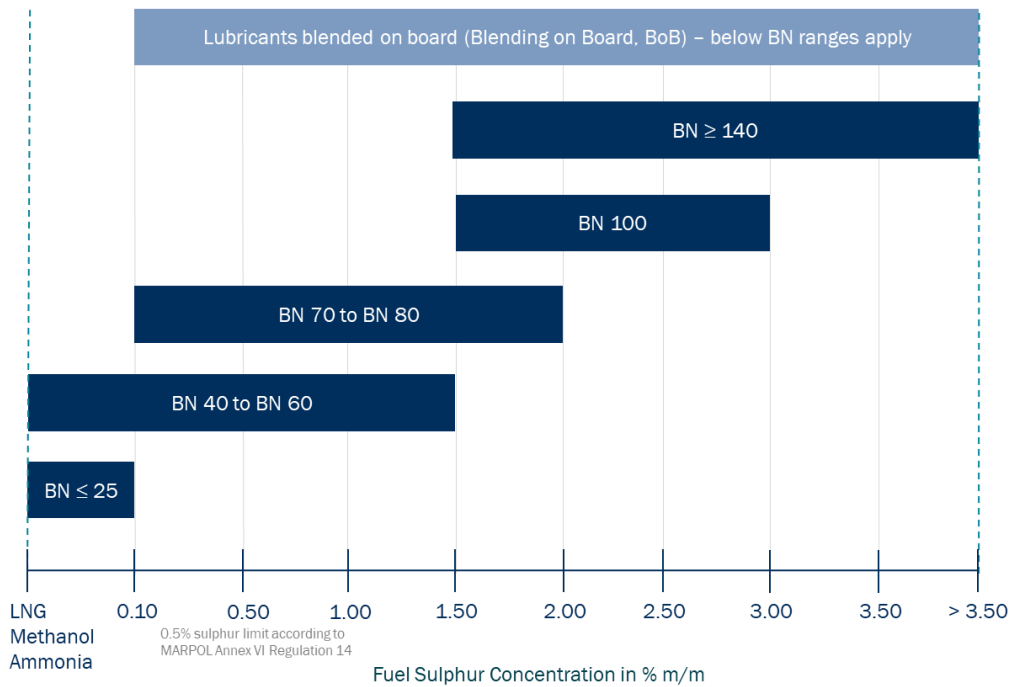

Figure 1 Selection of cylinder oil BN based on fuel in use
Cylinder oil selection is heavily influenced by the type of fuel in use and its sulphur content. Higher sulphur fuels require cylinder oils with a higher Base Number (BN) to neutralise the increased acidic byproducts produced during combustion. Conversely, low-sulphur fuels require cylinder oils with a lower BN to avoid excessive alkalinity which can lead to deposits resulting in increased wear. The different BN ranges allowed depending on the fuel in use are shown in Figure 1.